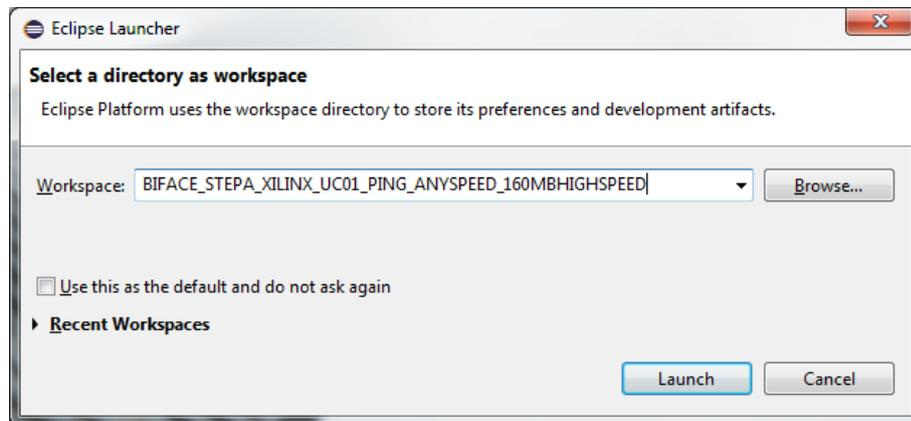

Figure 1: Selecting SDK Workspace Directory
5. During startup there is a prompt for workspace directory, browse through *BIFACES_XILINX_TEST* folder and select one of them, for example, select *BIFACE_STEPA_XILINX_UC01_PING_ANYSPEED_160MBHIGHSPEED* and click **Launch** (Figure 1). Take care to select StepA or StepB version of the software, depending on your TC39x board version.